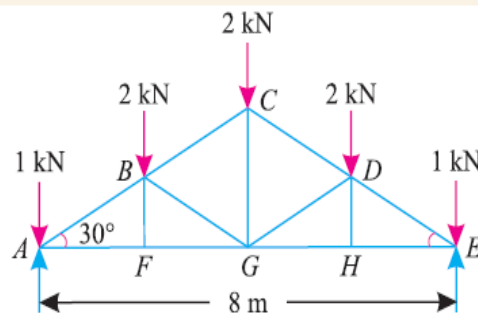

Fig.33
9. A king post truss of 8 m span is loaded as shown in Fig.33. Find the forces in each member of the truss and tabulate the results.